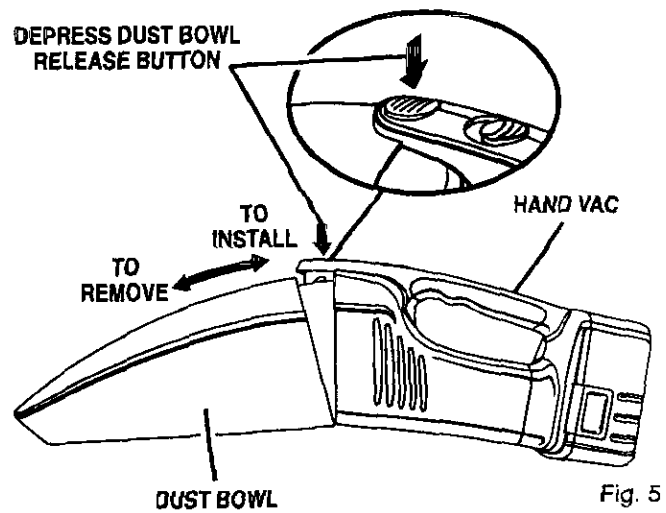

Fig. 5
See Figures 5, 6, and 7.
- Depress dust bowl release button located on top of hand vac then pull bowl down and out as shown in Figure 5.